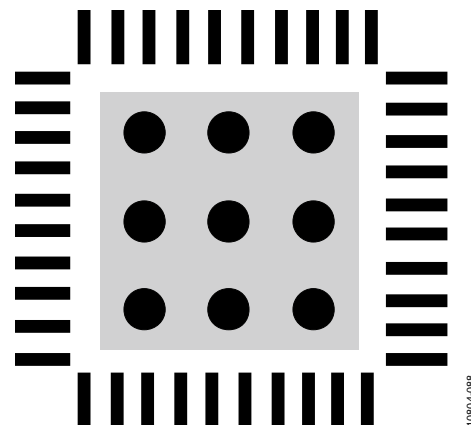

Figure 104. Exposed Pad Layout Example, Top View (Not to Scale)
- Vias should be placed to connect all layers of copper, allowing for efficient heat and energy conductivity. For an example, see Figure 104, which has nine vias arranged in a 3×3 grid in the pad area.